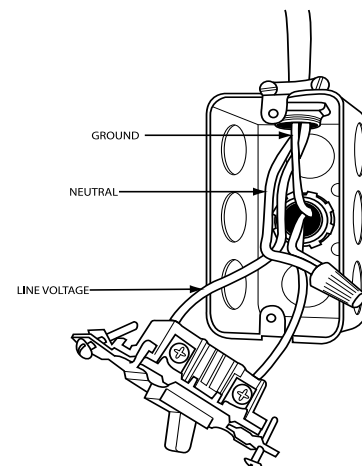

Fig. 34 – External Electrical Box
5. Fasten the external electrical box to the furnace casing using two (2) sheet metal screws.
11. Connect field power and neutral leads to furnace power leads inside the external electrical box as shown in Fig. 34.
1. Drill two (2) 1/8-in. (3 mm) pilot holes through the dimples in the furnace casing near the 7/8-in. knockout or plug on the side of the casing. Do not remove the knockout or plug in the side of the casing.
9. Connect field power and neutral leads to furnace power leads inside the external electrical box as shown in Fig. 34.